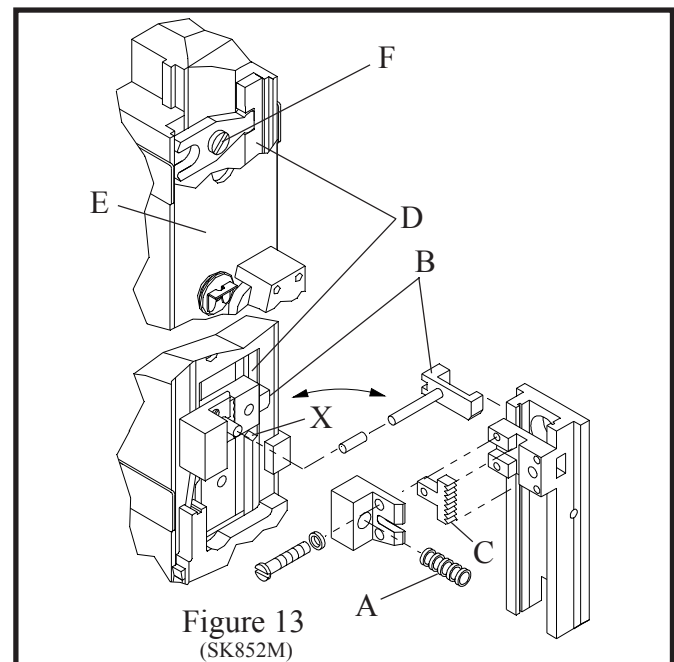

Figure 13
I. Grip, Grip Release Slide and Face Plate: (See fig. 13)